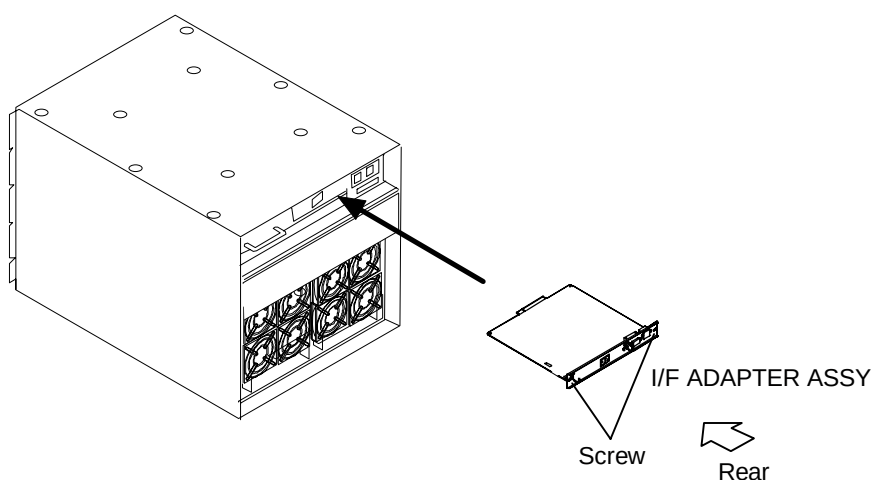

Figure 2.6.1 Installing the I/F ADAPTER ASSY
- (3) Open rear cover.
- (4) Install a CACHE ASSY in the additional CTL ASSY. (Mount a CACHE ASSY of the same capacity in the same corresponding slot of the optional CTL ASSY as those of the already installed CTL ASSY respectively as shown on RW-OPTION0180.)
- (5) Install the additional I/F ADAPTER ASSY. (See Figure 2.6.1.)